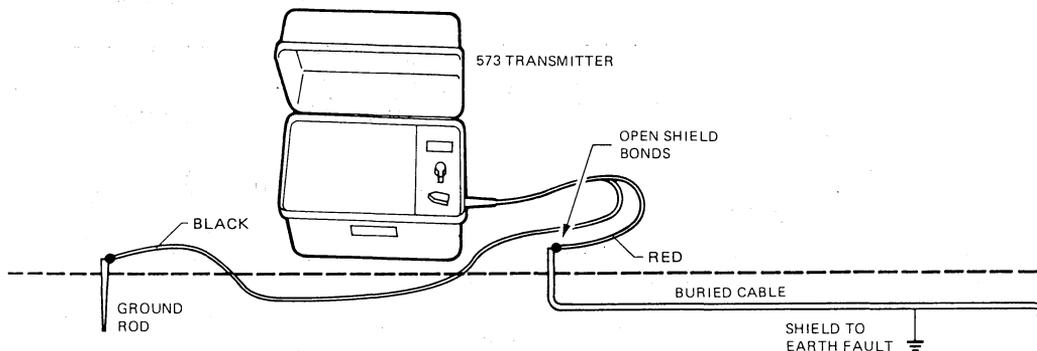

Figure 4-1. Connecting the Transmitter for a Sheath Fault
- 4.02 a) Connect the Transmitter to the cable shield using the direct connection method. Connect the RED lead to the shield, and the BLACK clip to the ground rod. Insert the rod in the ground in line with and away from the section to be traced, see Figure 4-1. See Paragraph 2.01.
- b) Connect the Transmitter as shown in Figure 4-1. Figure 4-2 also shows this operation.